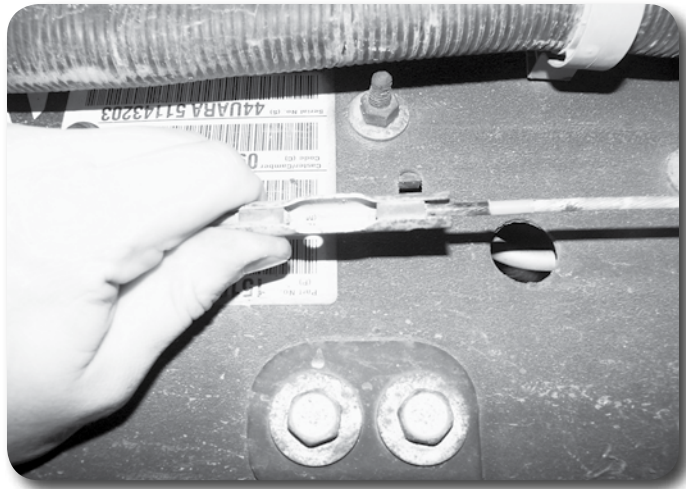

Figure 12
16. Pull down on the parking brake cable that runs down the driver's side frame rail. Clamp the cable where it runs through the front body mount so it stays slack **Figure 12**.